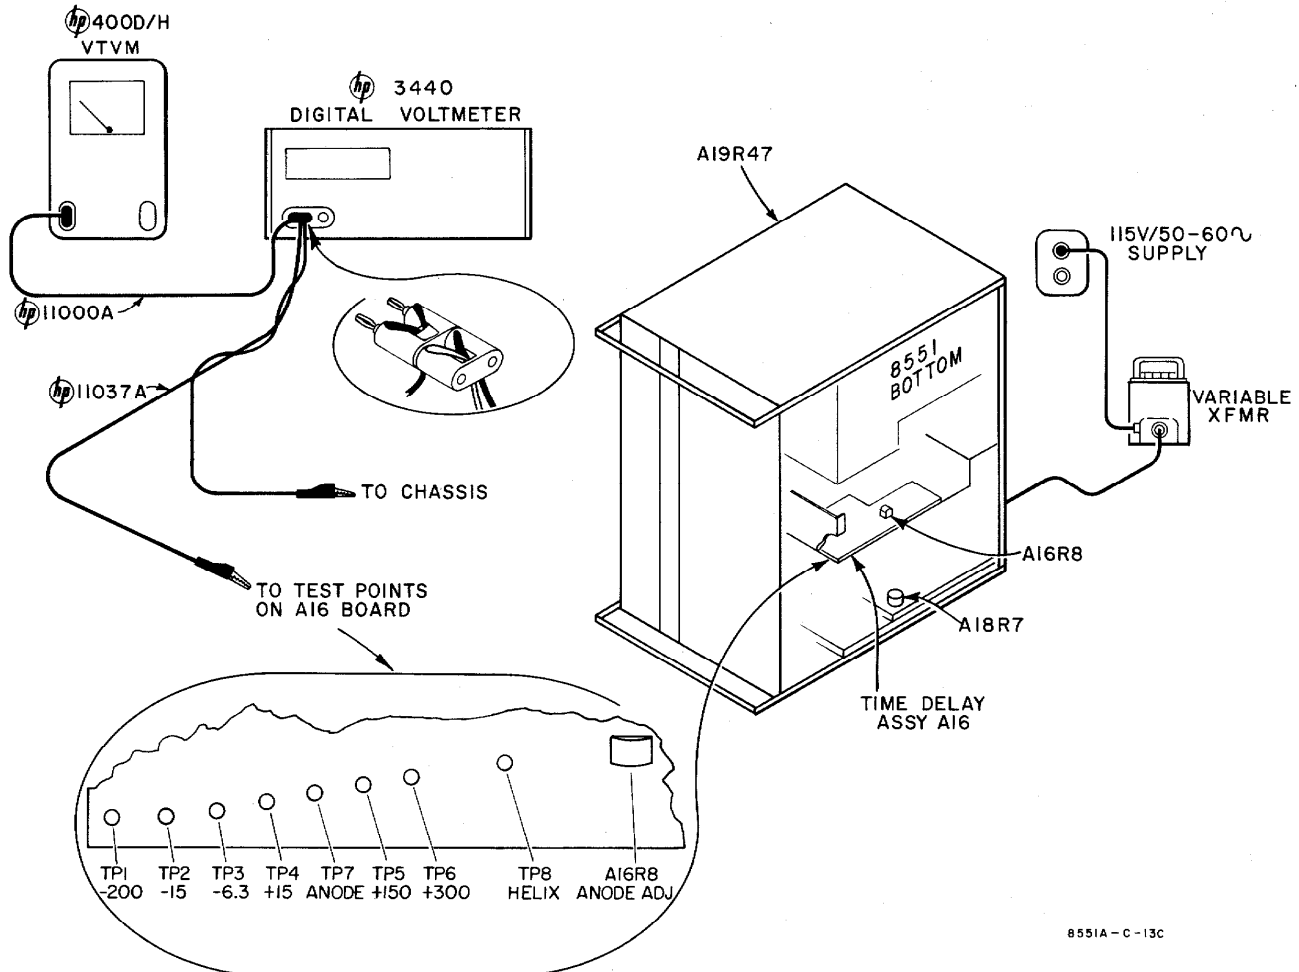

Figure 5-4. Measurement Setup, Low-Voltage Power Supplies
5-54. SETUP (SEE FIGURE 5-4).
- c. Measure voltage from ANODE test point A16TP3 on HV TD Assy A16 (Figure 5-4) to ground, and adjust A16R8 for anode voltage stamped on BWO.